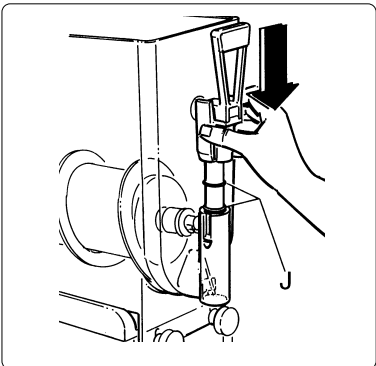

Fig. 18
h) Re-insert the tap, making sure to spread petroleum jelly on the washers (J) to facilitate sliding the tap in its lodging until completely inserted (see fig. 18).